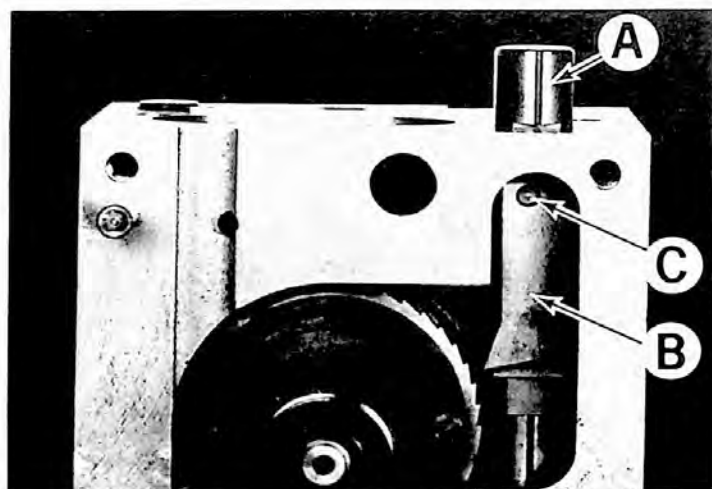

Figure 31 — Pawl and Pawl Post
10. Push down on pawl post "A", Figure 31, and remove pawl "B" from pin "C".
10. Coat pawl "B", Figure 31, with M-88 Molylube and replace.